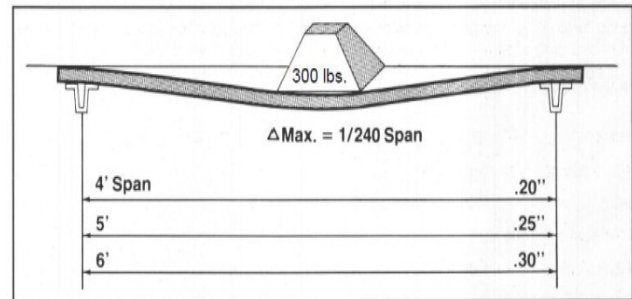

Figure 6-1
- As an example, limiting deck deflection to 1/240th of the total span in accommodating the designed, concentrated, or uniform load. This amounts to a deflection of 0.20" for a 300 pound load using a 4 foot span. Deflection limits for common spans are shown in Figure 6-1.